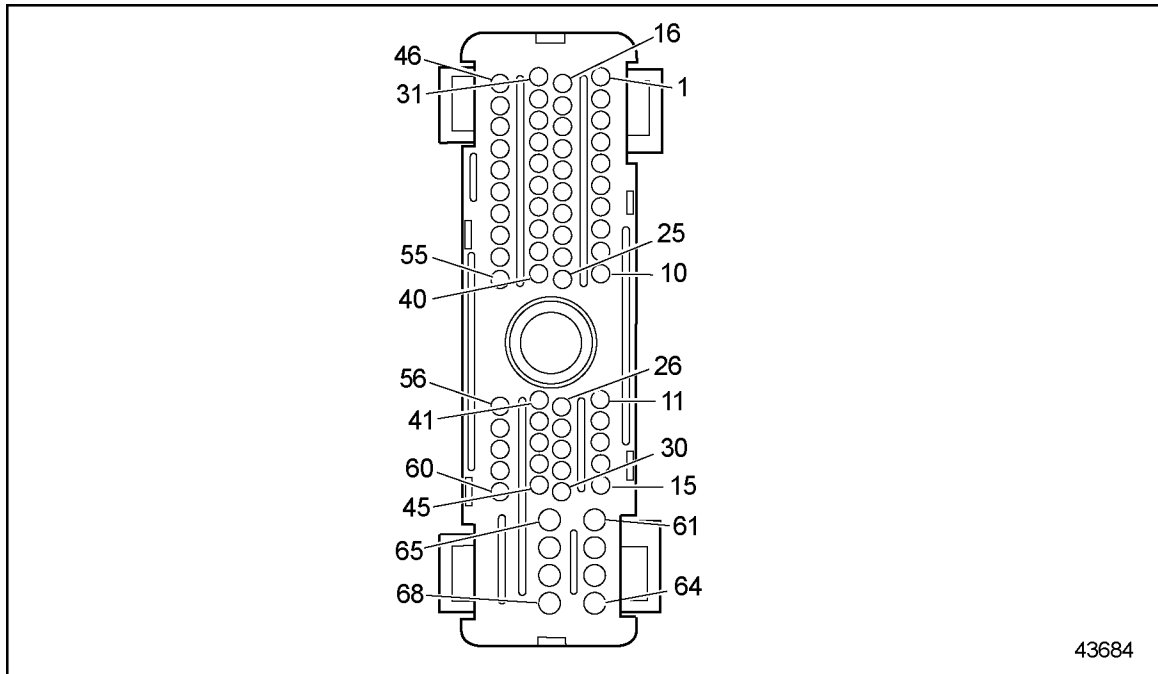

Figure 34-2 ECM/ECU Engine Harness Connector
3. Measure resistance between E-48 and a battery ground, and E-48 and the engine block. Repeat this check between E-49 and battery ground, and E-49 and the engine block. See Figure 34-2.